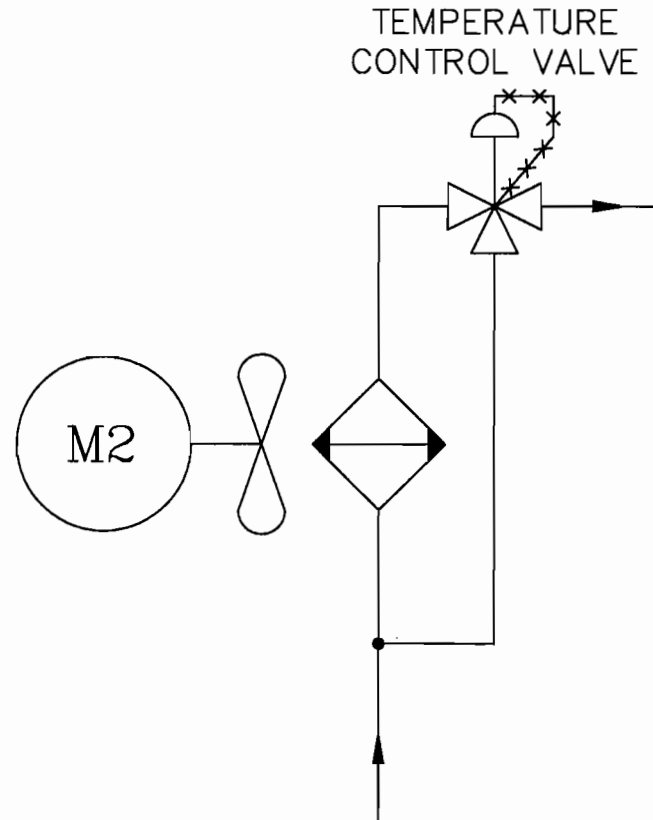

Figure 9. Air to Oil Cooler with Mixing Action Temperature Control Valve.
- For installations where ambient conditions fall below 60°F, the addition of a temperature control valve is recommended. This valve should be selected as a mixing type rather than the bypass type (Figure 9).
A thermostatic bypass valve applied in a mixing application mode with an air to oil heat exchanger is shown in Figure 9.